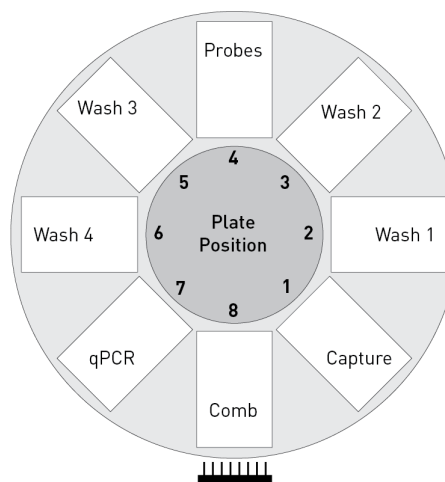

Fig. 5 Plate positions in the turntable
2. Press **START** to initiate plate loading. Follow the prompts on the display screen to load each plate onto the turntable, starting with “Comb” (see Figure 5). Slide each plate into the plate hold-down (if present).